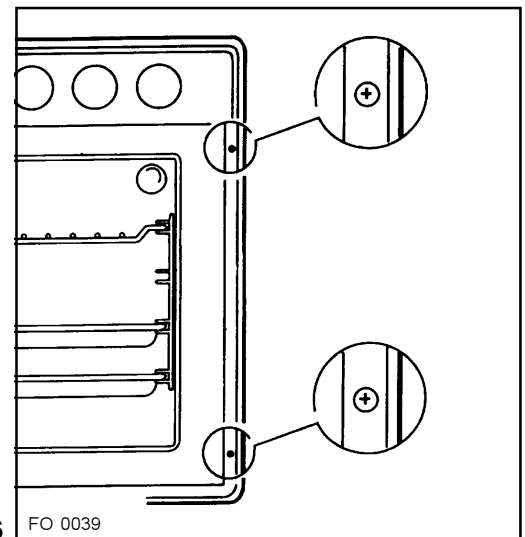

Fig. 16 FO 0039
- Open the oven door and secure the oven to the kitchen cabinet with four wood screws, which fit the holes provided in the oven frame (Fig. 16).